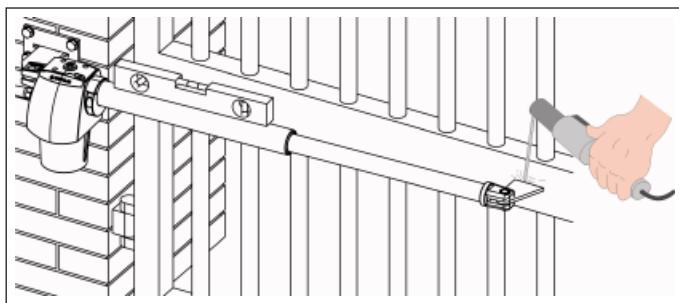

Fig. 16
- Bring the operator pipe to the leaf until the front bracket rests against the leaf (Fig.16).
- Using a level, check if the operator is perfectly horizontal and provisionally secure the front bracket with two weld spots (Fig. 16.).